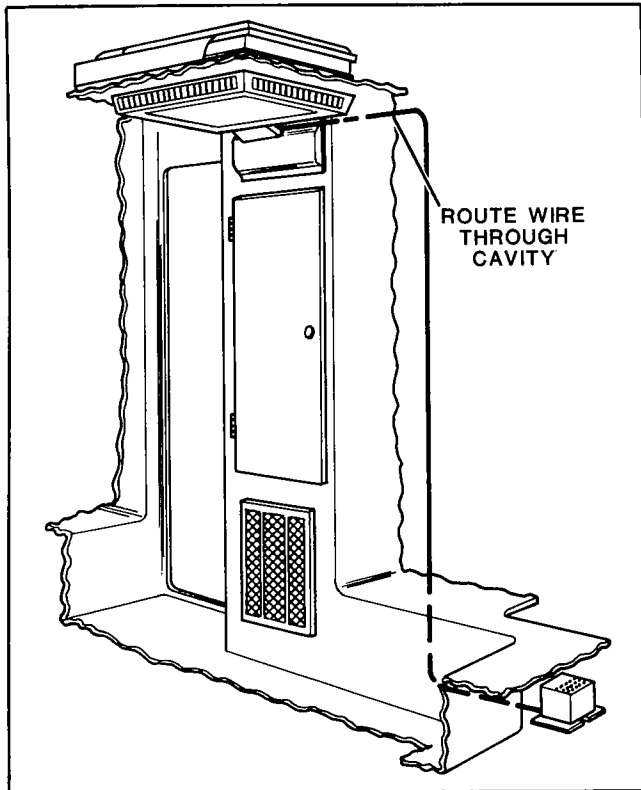

Figure 33. Converter Wiring
17. Connect wiring to converter (figure 33).